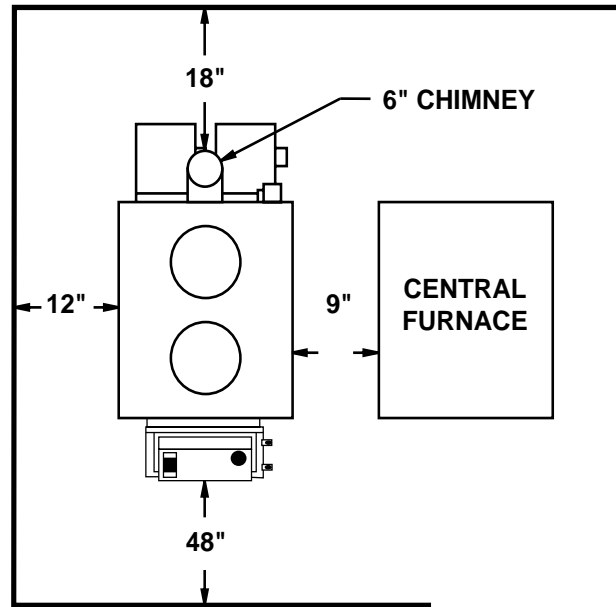

Figure 2
1. The furnace should be located in the same room as the central system and as close as possible, but not closer than 9". There should be no wall between the furnace and the warm air outlet duct that is connected directly to the warm air outlet plenum of the central furnace. (See Fig. 2)
(Refer to Fig. 2 & 3)
4. Check figures 2 and 3. Be sure you have the clearances shown from the furnace and the connector pipe to combustible surfaces. If you have a solid brick or stone wall behind your furnace, you can place the furnace as close as you wish to the wall. If the wall is only faced with brick or stone, treat it as a combustible wall.